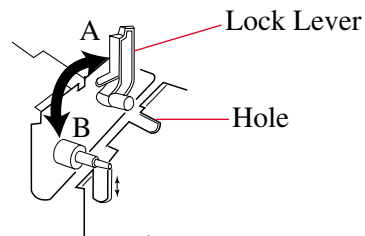

Fig. 5-22
1. Move the two lock levers in the 'A' direction (see Fig. 5-22).
3. Move the lock lever in the 'B' direction, and secure the transfer roller (see Fig. 5-22).